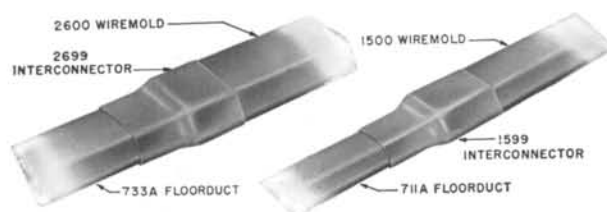

FIG. 8—INTERCONNECTORS
- Wiremold overfloor ducts and fittings are interchangeable with Florduct and associated fittings by using the 1599 and 2699 interconnecting fittings as shown in Fig. 8.